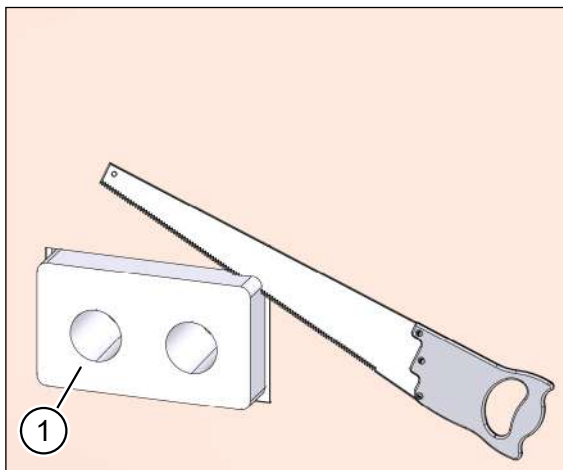
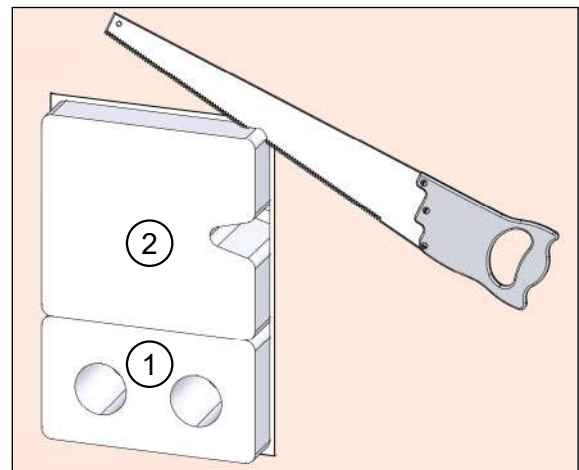

Fig. 34: Aligning the wall box **without** filler piece
Fig. 35: Aligning the wall box **with** filler piece
- ▶ Use a Styrofoam saw to cut off the excess wall box (item 1 in Fig. 34 and Fig. 35) and filler piece, if necessary (item 2 in Fig. 35), so that they are flush with the solid wall or any insulation.